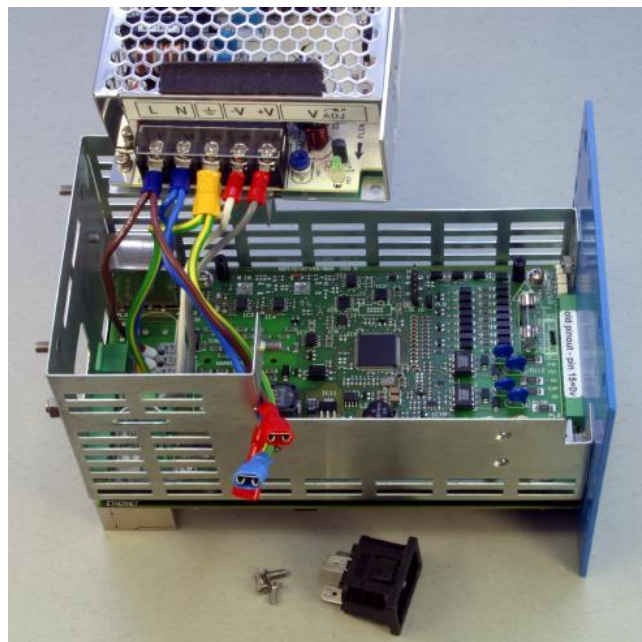

Figure 25 – Access to Fuses on PSU Board
3. Remove the AC/DC power supply retaining screws from the base of the unit and rotate the power supply module to reveal the fuses. If F2 needs to be replaced the IEC inlet connector will have to be removed. Disconnect the ¼" spade crimps from the back of the inlet and depress the retaining tabs [two on the top and one on the bottom) to release the connector – Refer to Figure 25.